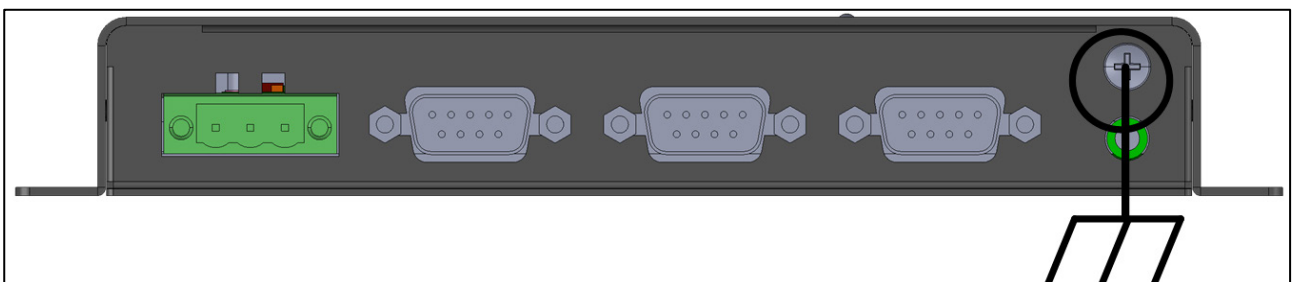

Figure 4: Grounding Schematic
*These wires come preconnected to the CommBox. If they need to be reattached, place the white cable (#3) in the port as shown in Figure 4. Place both black cables into the ports as shown in Figure 4; either cable can be placed in either port.